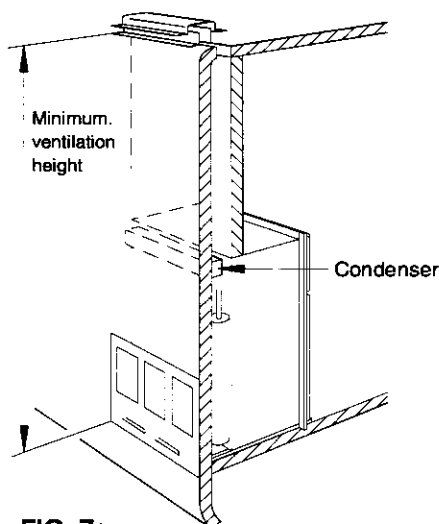

**FIG. 6**
**C:** Two screws installed in the rear base. See fig. 6.